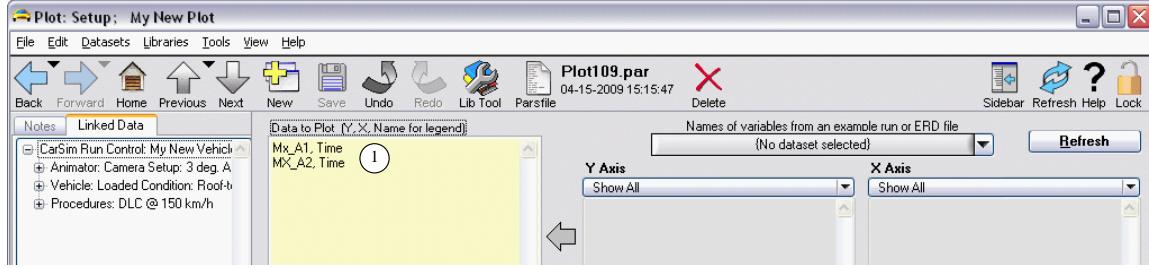

Figure 64. Dataset to define new plot.
1. Use the drop-down control ① to show more plots. (Specify 2, as shown in the figure.)
2. Use the drop-down control ④ for the first plot dataset and select the option to **Link to New Dataset**. Name it My New Plot. Click the blue link button to view it (Figure 64).